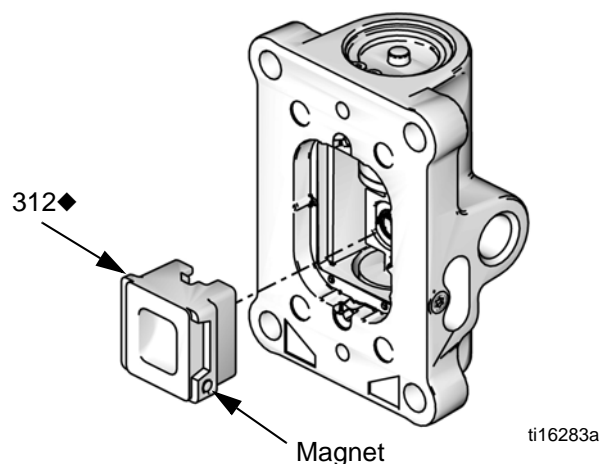

FIG. 19. Pneumatic Valve Cup Installation
7. Install the spring (311♦). Lubricate and install the pneumatic valve cup (312♦), see FIG. 19. Align the small round magnet with the pneumatic inlet.